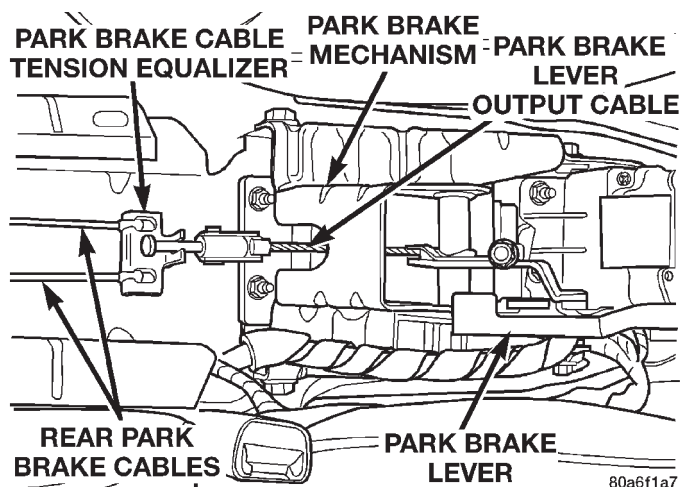

Fig. 156 Park Brake Cable Tension Equalizer
(14) Install a **NEW** park brake cable tension equalizer on the park brake lever output cable and rear park brake cables (Fig. 156).